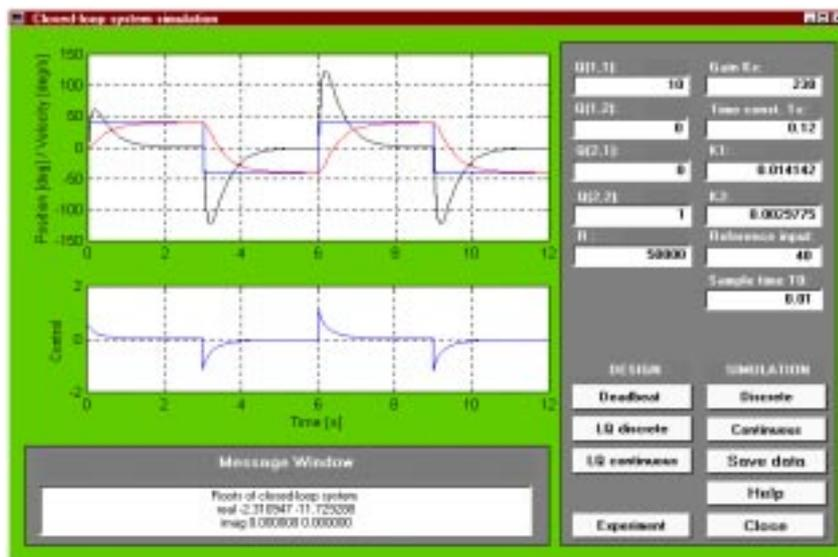

Figure 4-9: Closed-loop system design & simulation window
4) Closed-loop system design and simulation - opens the window shown in Figure 4-9.